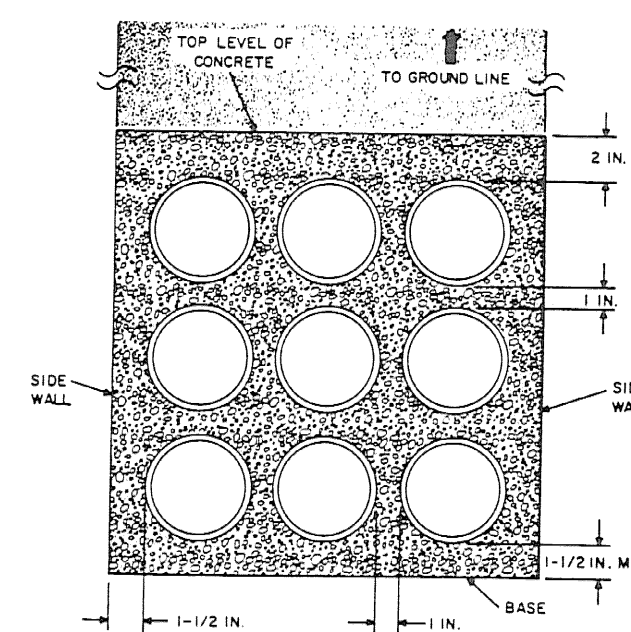

Fig. 3—Trench Dimensions—1-Inch Vertical and Horizontal Separation
4.05 Table B indicates the trench width, concrete depth, and volume of concrete required for various duct formations where there is 1-inch vertical and horizontal separation between ducts. Figure 3 illustrates a nine-duct formation of this type in a straight conduit section or at curves and grade changes.